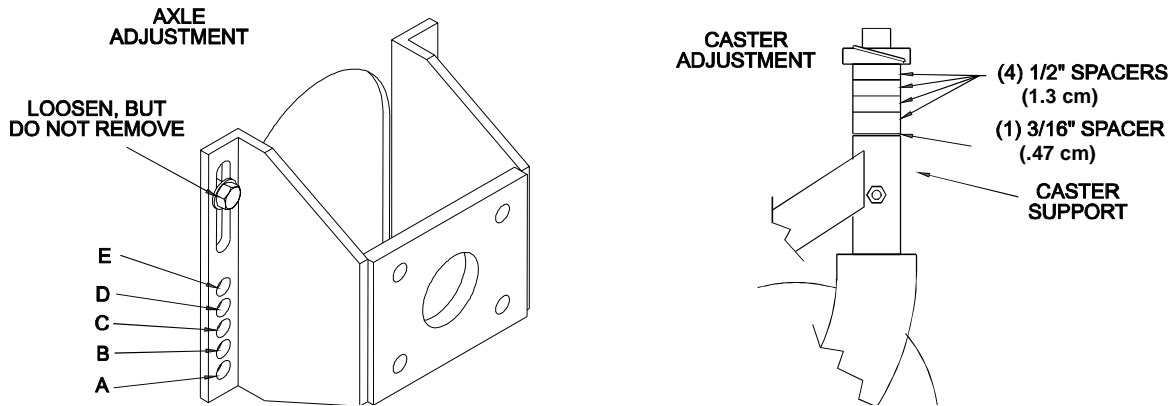

FIGURE 5
Desired cutting height range can be obtained by adjusting the rear axle and placing caster spacers above or below the caster arm (See Figure 5).
- c) Loosen but do not remove the **top** two bolts on each hydraulic motor mounting bracket, (See Figure 5).